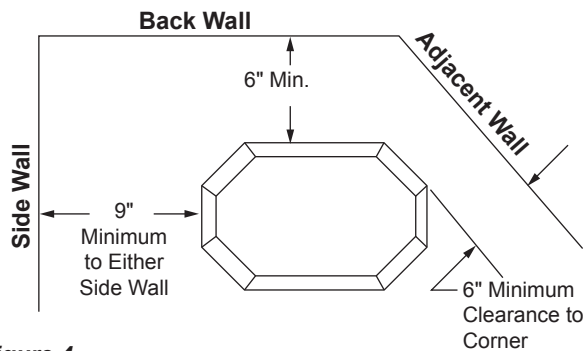

Figure 4 -
- Minimum clearances to combustibles, side-wall, ceiling, woodwork, and windows **must be maintained**. Page 8, Figures 4 and 5.
The dimensions shown in *Figures 4 and 5* are minimum clearances to maintain in installing this heater. Left and right clearances are determined when facing the front of the heater.
- Stove must be at least 6" from the back wall. *Figure 4*
- Stove must be at least 9" from either side wall. *See Figure 4*
- Stove must be at least 6" from the corner. *Figure 4*